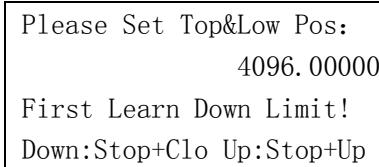

Fig4-4
2. Press the emergency stop switch firstly, the press manual open and manual close push button at the same time for 3 seconds , the controller will go into position setting status and indicates Fig4-4, now it is in the position setting status, can start the position setting .